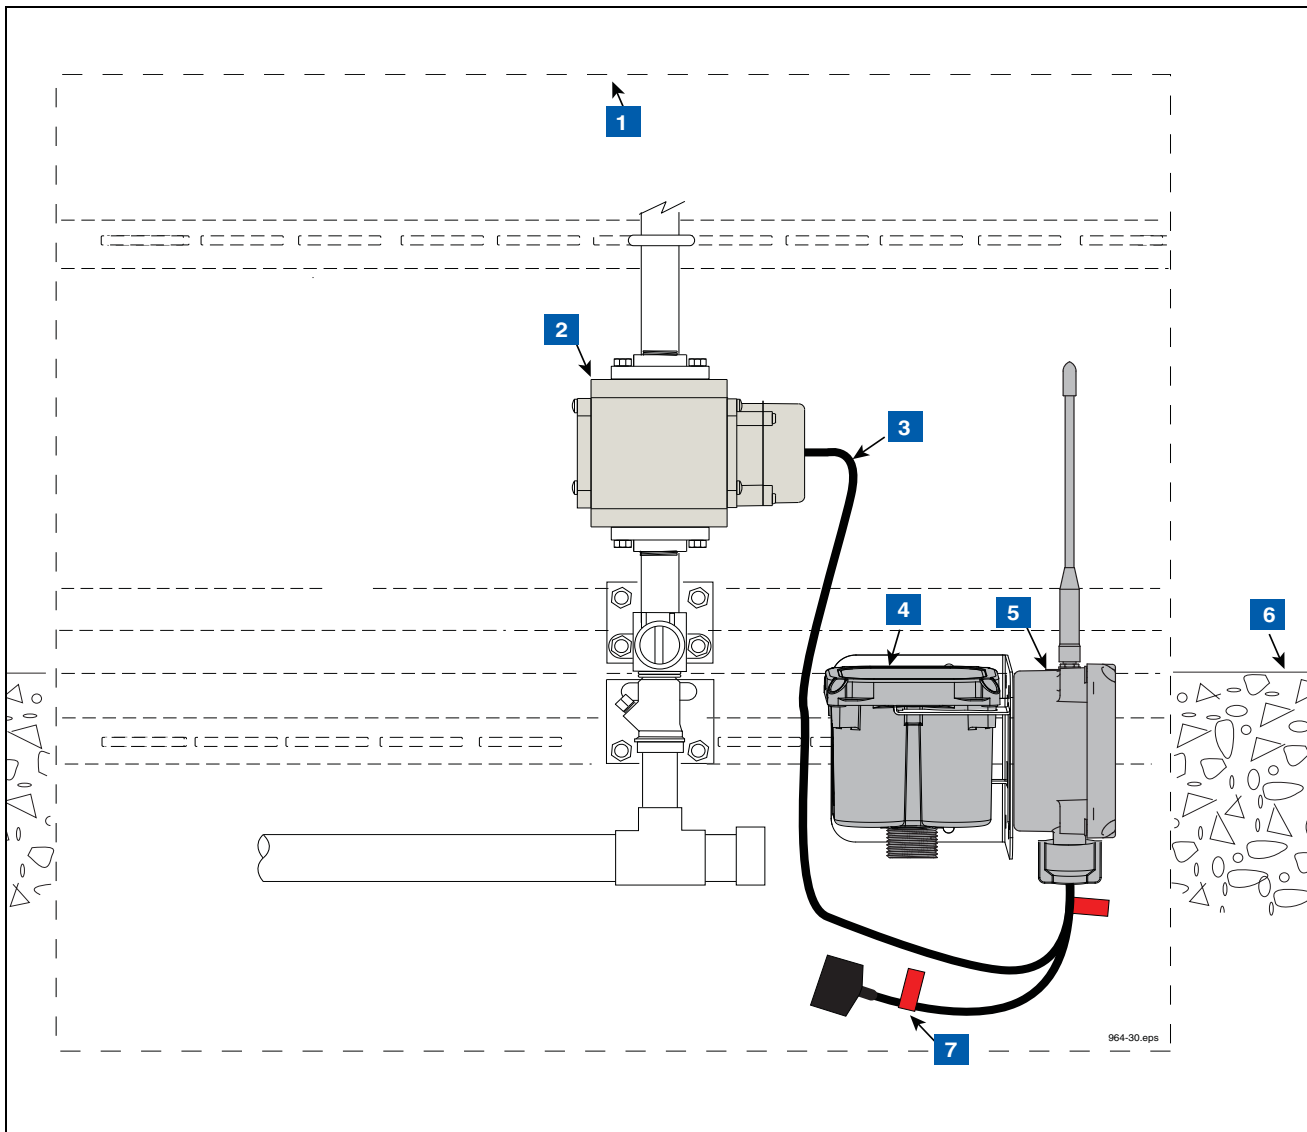

Figure 14. Example VFM Transmitter Installation In Dispenser
5. Determine a support location within the dispenser cabinet that will allow you room for the transmitter/battery support bracket. Clamp the bracket to an available support structure (see Figure 14).
LEGEND FOR NUMBERED BOXES IN Figure 14
2. Make sure the battery/DC power cable is not connected to the battery pack (item 5 in Figure 14) or dc power source at this time.